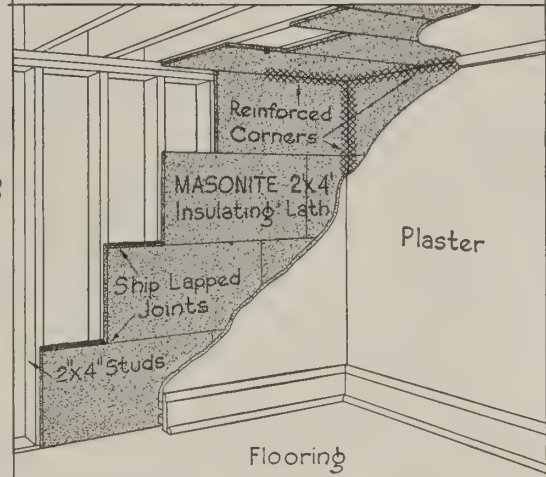

FIG. 4 SHOWING MASONITE INSULATING LATH USED AS PLASTER BASE
*Note:* See Figures 4 and 5, page 10.